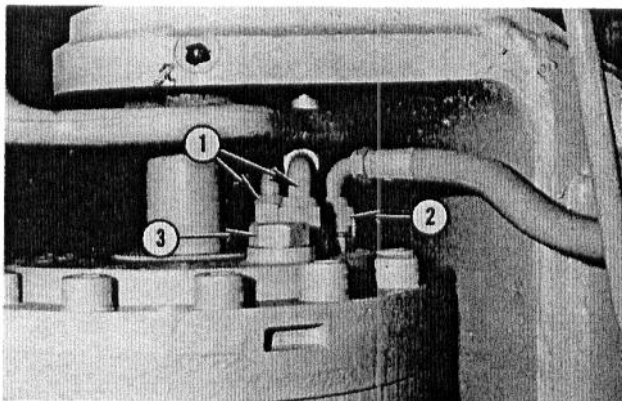

Fig. 6 — Lines Connected to Top of Rotary Cylinder — MF 54A Cylinder Shown
3. Disconnect swing cylinder drain line from return line ... see Fig. 6.
- To gain access to the adjusting screws, the pressure lines that attach to the cylinder ports and their corresponding fittings must be removed from the rotary cylinder, see Fig. 6.